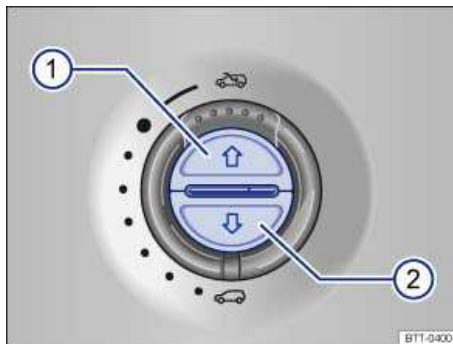

Fig. 178 In the headliner: Buttons for sunshade.
- Press and hold the button ⇒ fig. 178 \(2\) for about 5 seconds until the sunshade is completely closed.